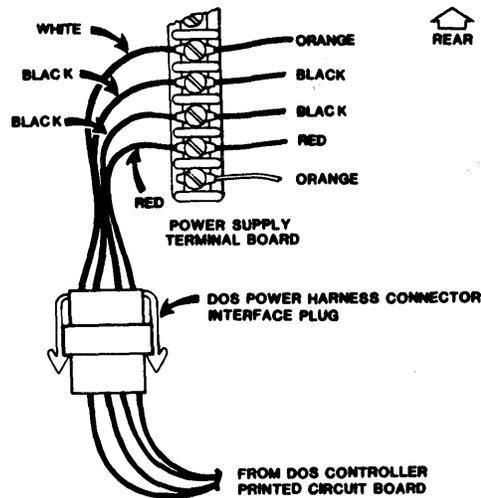

Figure 6-3. K205 DOS Power Harness Connection at Power Supply, Top View
2. Remove the four Philips-head screws securing the top cover to the DOS assembly, and carefully remove the top cover from the unit. Note the orientation of the ribbon cable connectors and power harness connectors as they relate to the disk drives (Figures 6-3 and 6-4). Disconnect the I/O ribbon cable connectors from the Disk Controller Board and remove the cable from the DOS assembly. (This will facilitate positioning and folding the I/O cable after the DOS unit is placed on the K205 chassis.)
5. Locate the DOS power harness connector cable near the power supply which is installed by the manufacturer for interfacing the DOS option (See Figure 6-3). Connect the power harness connector plug from the DOS unit to the power supply harness connector through the rear access slot.